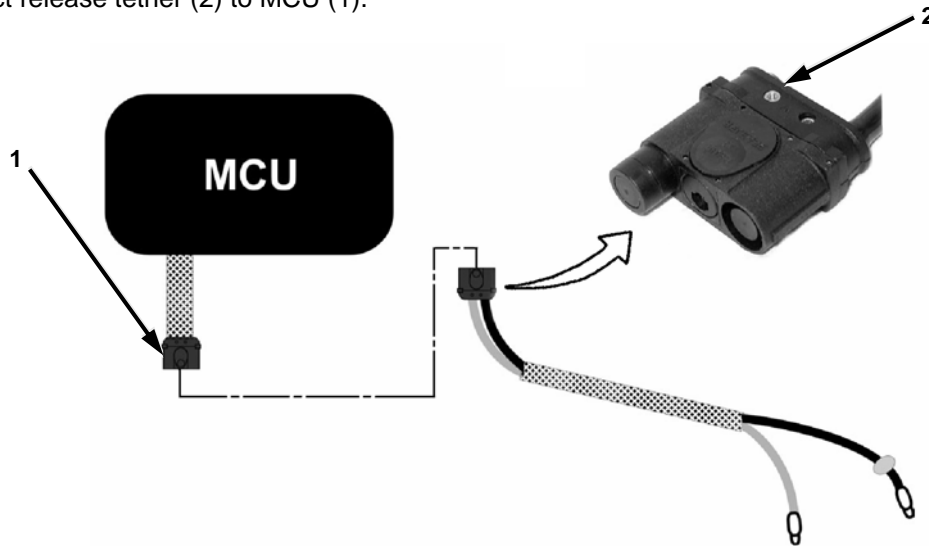

Figure 2-28. Release Tether for Charging MCU.
Step 1 below applies to Figure 2-28.
1. Connect release tether (2) to MCU (1).